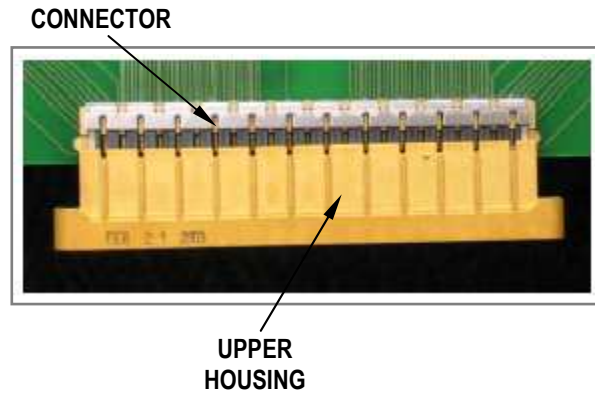

Figure 2
2. Rotate the thumbscrew clockwise so the upper housing will be pulled away from the connector. After the housing is loose, rotate the thumbscrew counterclockwise to remove the Upper Housing Puller and finish removing (by hand) the upper housing from the connector. See Figure 2.